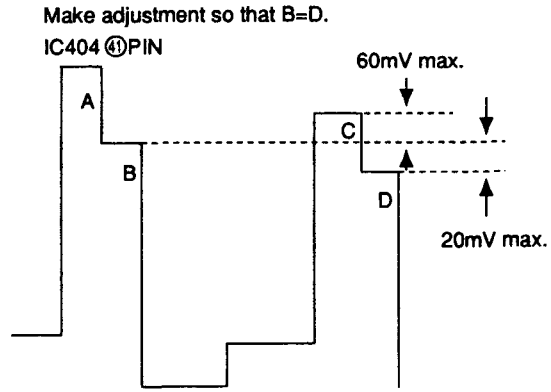

Fig. 5-28
- 2) Connect the probe of an oscilloscope to IC404 ④ PIN or TP401.
- 4) Adjust **[R-Y LEVEL PAL]** so that the peaks of waveforms will be flush with each other as shown on the right. (Fig.5-28)